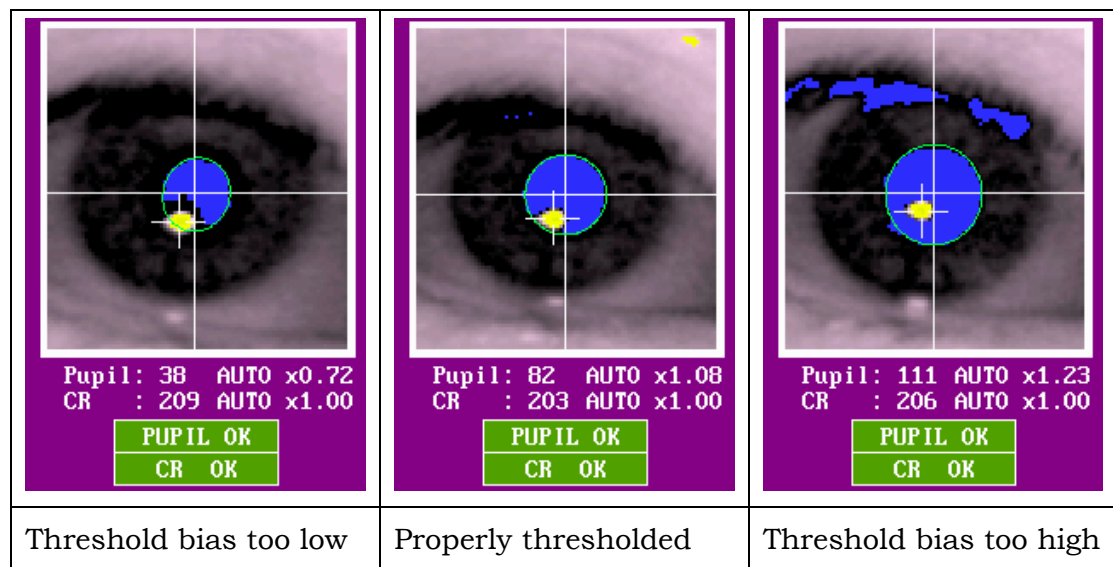

Figure 3-13. Pupil and CR Thresholds and Bias Values
- 12) In the zoomed camera image, the threshold values for pupil and corneal reflection are displayed under the camera image. Unlike other versions of the EyeLink 1000 eye tracker, these threshold values are automatically updated. The number beside the pupil threshold value is pupil bias – the extent to which the pupil threshold is modulated (see Figure 3-13). The user may adjust the bias using the pupil threshold adjustment buttons or with the UP and DOWN keys. Raising the bias increases pupil coverage (i.e., increasing the blue area) while lowering the bias decreases the pupil coverage (i.e., decreasing the blue area). Heuristically, pupil biases should be in the range of 0.9 to 1.1. A value around 1.05 is recommended, though this will vary depending on the eye.